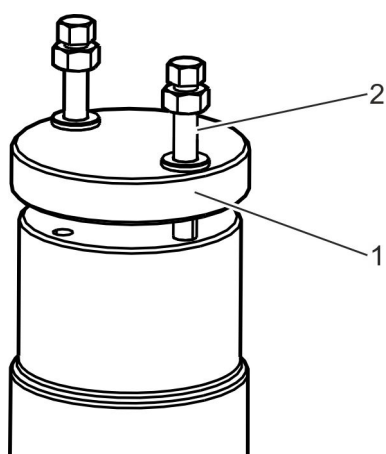

Fig. 32: Removing the fastening screws
- 13.** ➤ Remove the fastening screws (Fig. 32/2) with the washers from the body of the spring-loaded over pressure safety device.
- 14.** ➤ Remove the blocking device (Fig. 32/1).